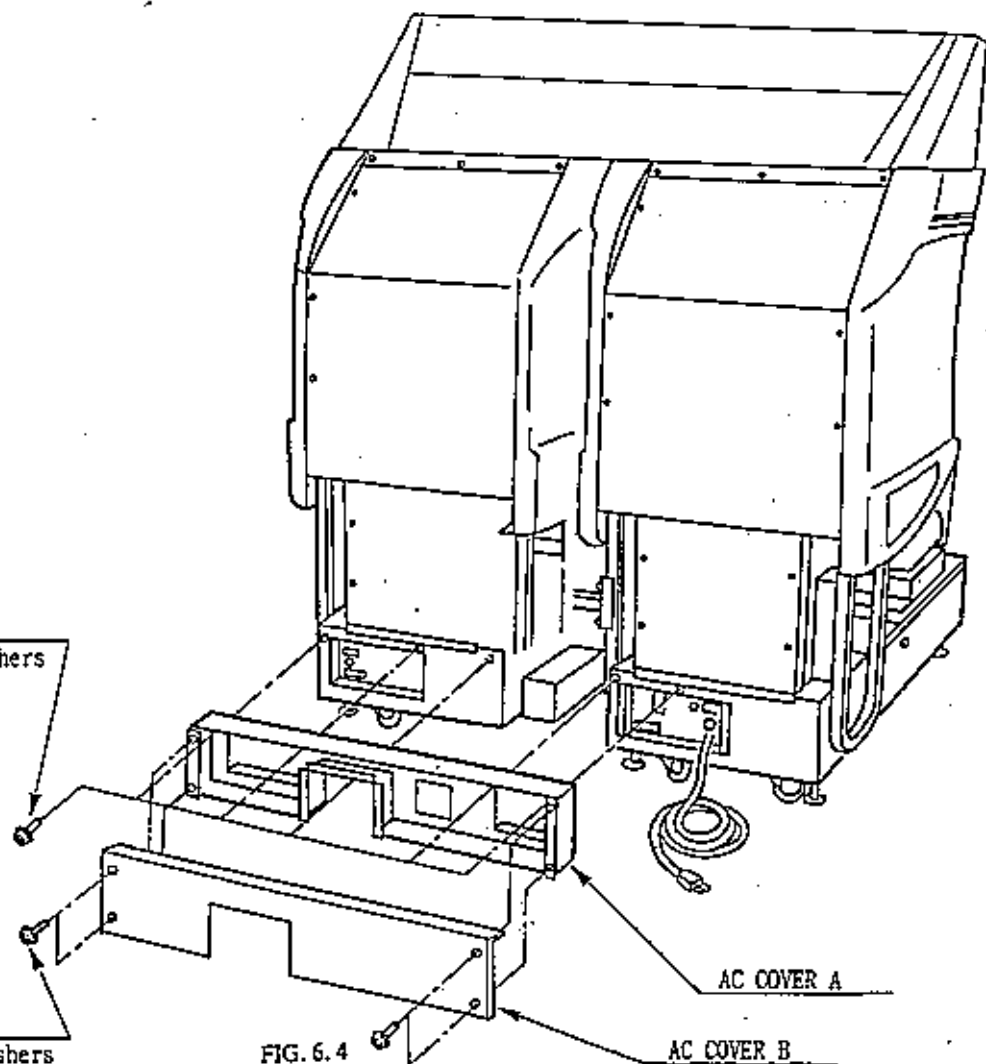

FIG. 6.4
- ① Attach AC COVER A to the back of the cabinet (Fig. 6.4) by securing with 5 screws.
- ② Make wiring connections between both cabinets & the coin chute tower. Insert the supplied wiring connectors to the corresponding ones which have an identical color and the same number of pins.
- ③ Insert the optic fiber cables to the optic fiber connectors in a manner as applicable. There are "TX" and "RX" connectors. Make sure to connect the "TX" connector of one cabinet to the "RX" connector of the other cabinet (see sec. 20).
- ④ Secure the wiring and optic fiber cable with cord clamps in AC COVER A.
- ⑤ Install AC Cover B. Insert AC Cover B to AC Cover A from above and secure with 4 screws.